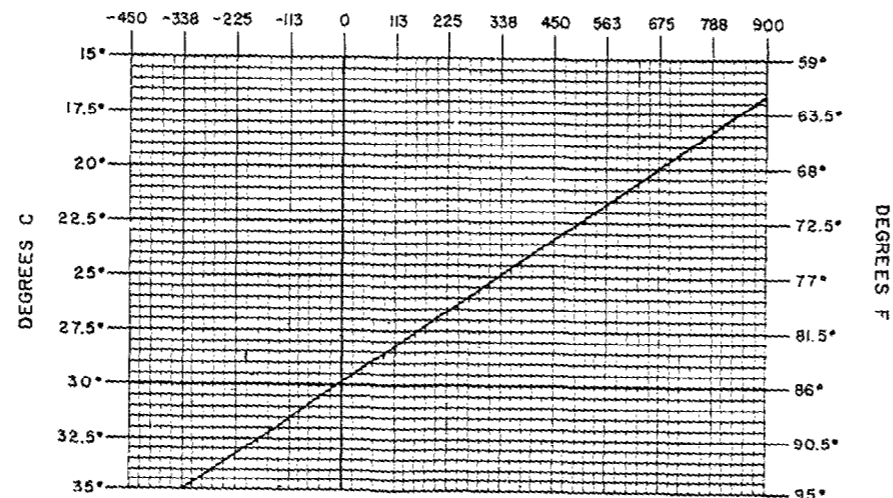

Figure 3 - Crystal Module Frequency Offset Chart
2. Maintain the radio at 30°C (± 5 °C, -10 °C) and offset the oscillator, as a function of actual temperature, by the frequency error shown in Figure 3.